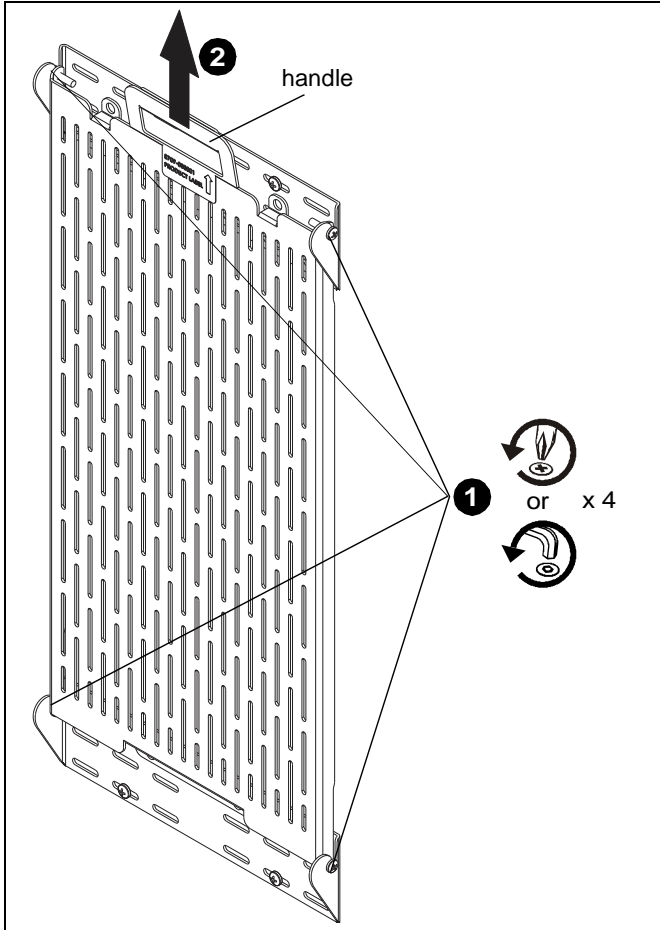

Figure 13
1. Loosen four screws holding accessory wall plate (A) to wall brackets (B). (See Figure 13)
2. Grab handle and pull accessory wall plate (A) straight up until removed from wall brackets (B). (See Figure 13)